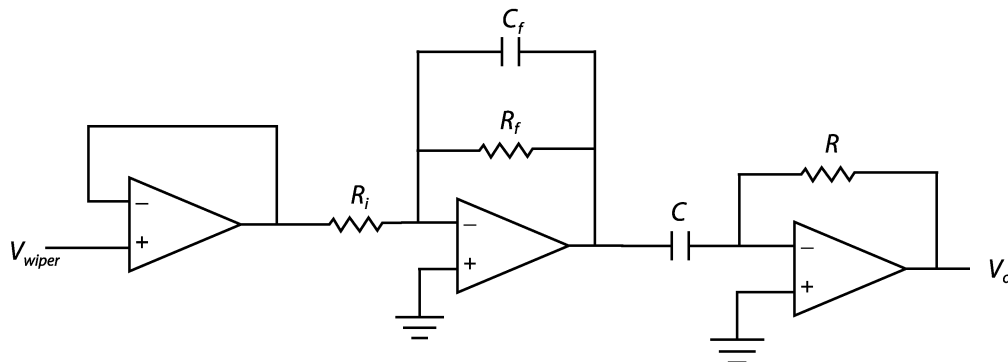

Figure 1. Buffer amplifier filter differentiator circuit.
For the above relationship for V_{out} to be true, we must prevent current from flowing through the wiper. To assure this, the wiper signal must first be buffered, as shown in Figure 1. We do not need to buffer the signal connected to the data acquisition board since the board has a very high input resistance. Since pots often use wire windings, the wiper produces electrical noise as it travels across the winding, and hence it is especially important to use a low pass filter when differentiating the signal from a pot. The filter is placed after the buffer. The filtered signal can then be differentiated to determine angular velocity. A diagram of this circuit is shown in Figure 1. **The most important thing to avoid when using a pot in this fashion is the possibility of connecting the 5 volt supply or Ground to the wiper, which will burn out the pot when the wiper approaches the Grounded or 5 volt supply terminals, respectively.**
8. Buffer, amplify, filter, and differentiate your pot signal according to Figure 1 to obtain velocity information from the potentiometer output. Ensure that you have a low pass filter built into your differentiator with a cutoff frequency at least twice as high as the oscillating frequency of the pot. Connect the output from the differentiator to AI_CH0 and the function generator signal of AI_CH1. Set the appropriate sampling rate and number of samples and start the program. Save the file to disk. The data file contains three columns. First column is time, second column is differentiated potentiometer signal, and third column is input signal. Use a data-plotting program such as MATLAB or EXCEL to plot your data.